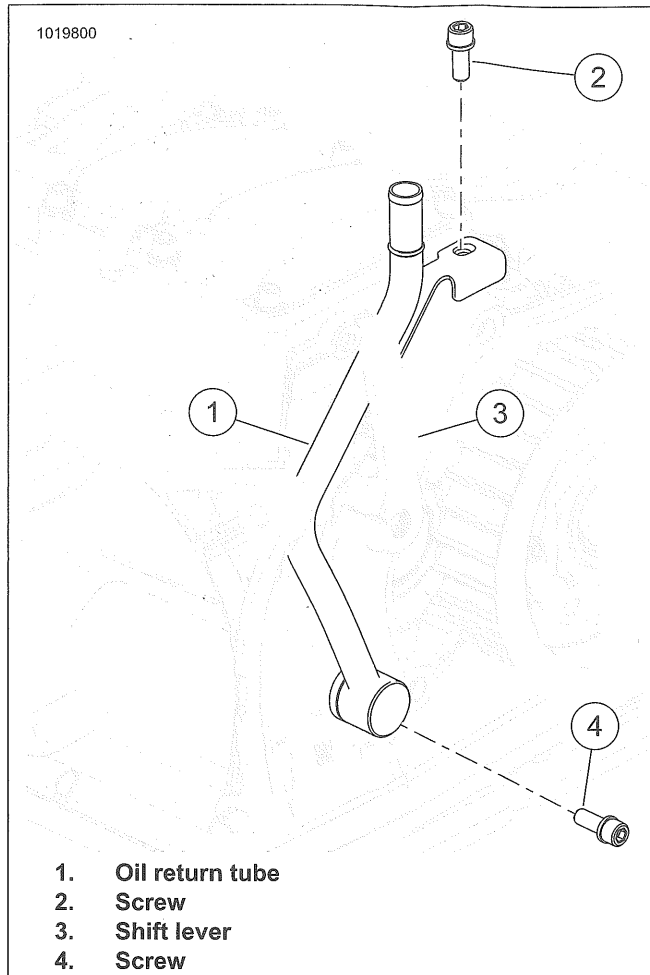

Figure 5-79. Oil Return Tube/Cover
2. See Figure 5-79.. Remove screws (2, 4).
3. Remove oil return tube (1).
1. See Figure 5-79. Install **new** O-ring on lower oil tube adapter.
2. Install oil return tube (1).
- a. Locate oil return tube between shift lever (3) and transmission housing.